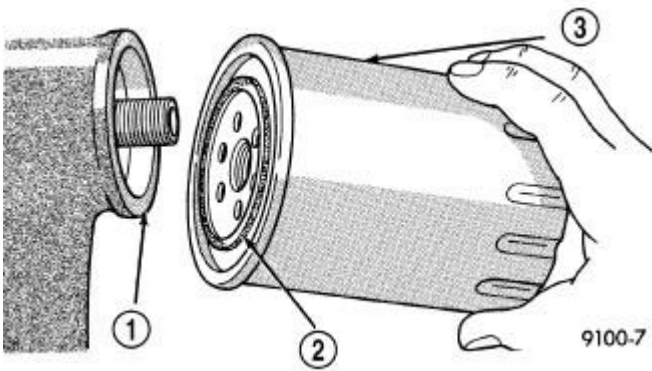

Fig. 124: Installing Engine Oil Filter
1. Lightly lubricate oil filter gasket (2) with engine oil. Refer to **Fig. 124**.
2. Thread filter (3) onto adapter nipple. When gasket makes contact with sealing surface, hand tighten filter one full turn, do not over tighten.